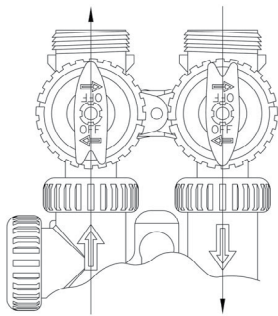

Figure 9 Operating Mode
1. Place the bypass valve in the Bypass position or mode. (See Figures 9, 10, and 11.)